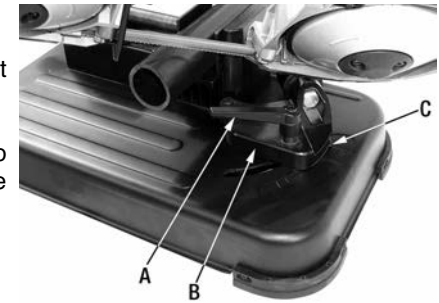

FIGURE 4
1. To make any angled cut between 0° - 45°, first loosen the lock handle (A) Fig.4.
2. Pivot the bandsaw and miter base (B) Fig.4 to the desired angle using the indicator and angle scale (C) as a guide.
3. Retighten lock handle (A).